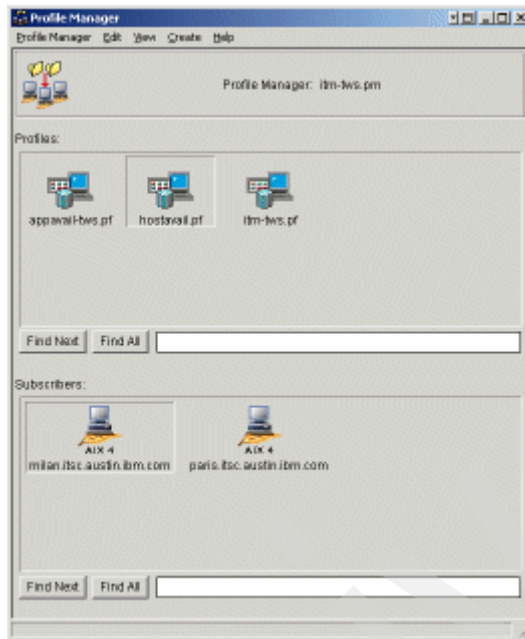

Figure 9-137 Selecting Master Domain Manager in Subscriber list
3. Select the Master Domain Manager in the Subscribers list. In the lab for this book, we selected milan as shown in Figure 9-137 on page 535.